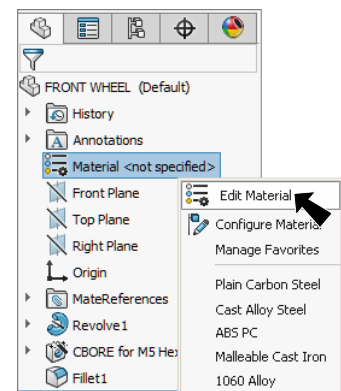

Fig. 17
Step 1. **Right click Material**  in the Feature Manager and click **Edit Material**, Fig. 17.